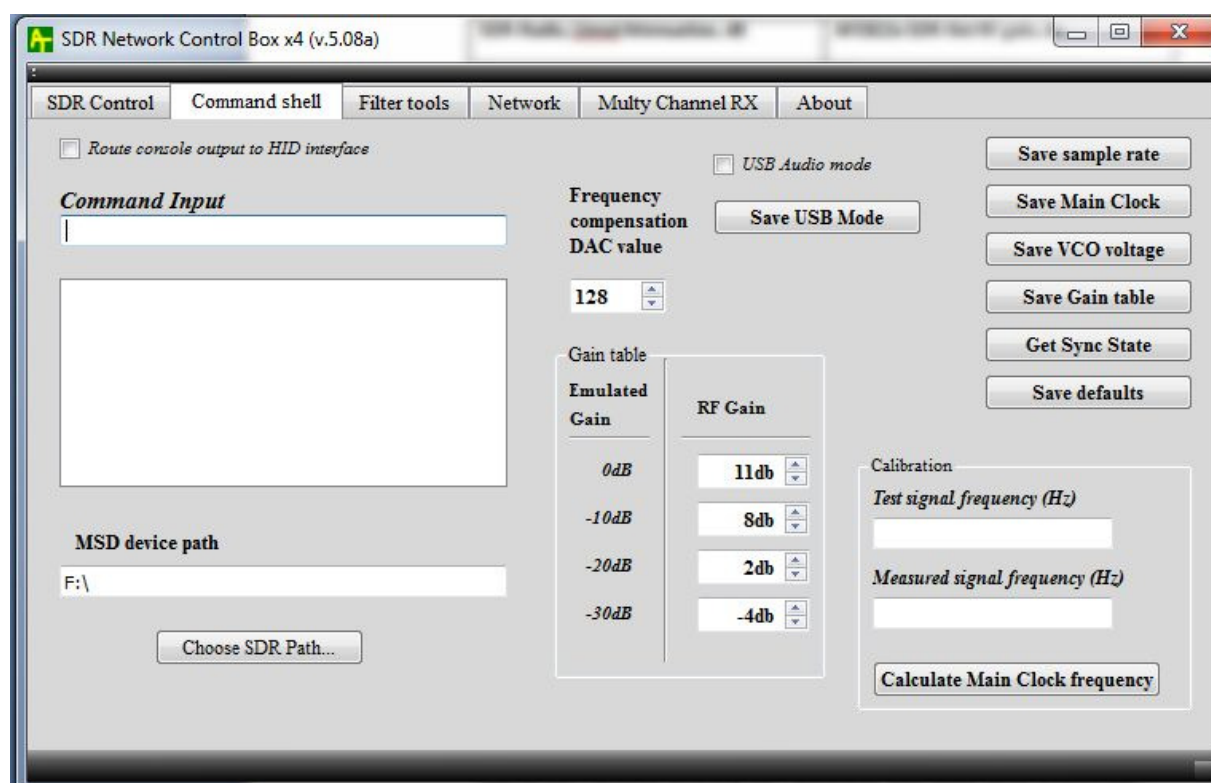

Figure 4 Command shell tab
Screenshot of “Command shell” tab is shown on Figure 4.
- 3.2.10. The Group Box “Calibration” – (see Figure 4 and 5), is used for calibration (calculation) precision value of the main clock oscillator. The calibration process is very simple.